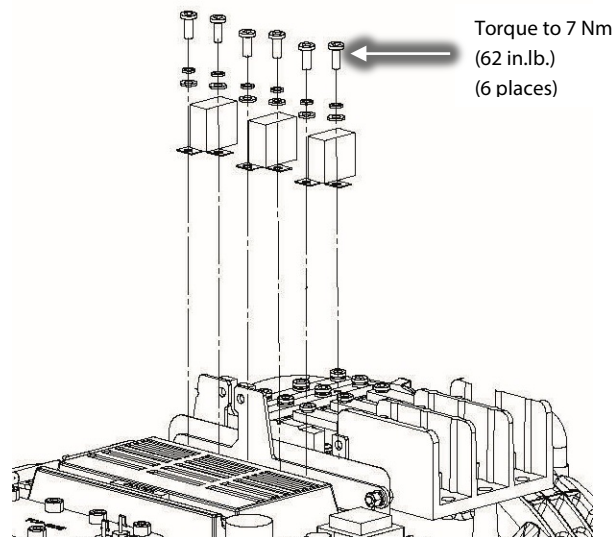

Figure 6 – Snubber Capacitor Removal
14. Remove the six (6) screws that secure the three (3) capacitors to the bus bars and IGBT. Refer to Figure 6 (Snubber Capacitor Removal).